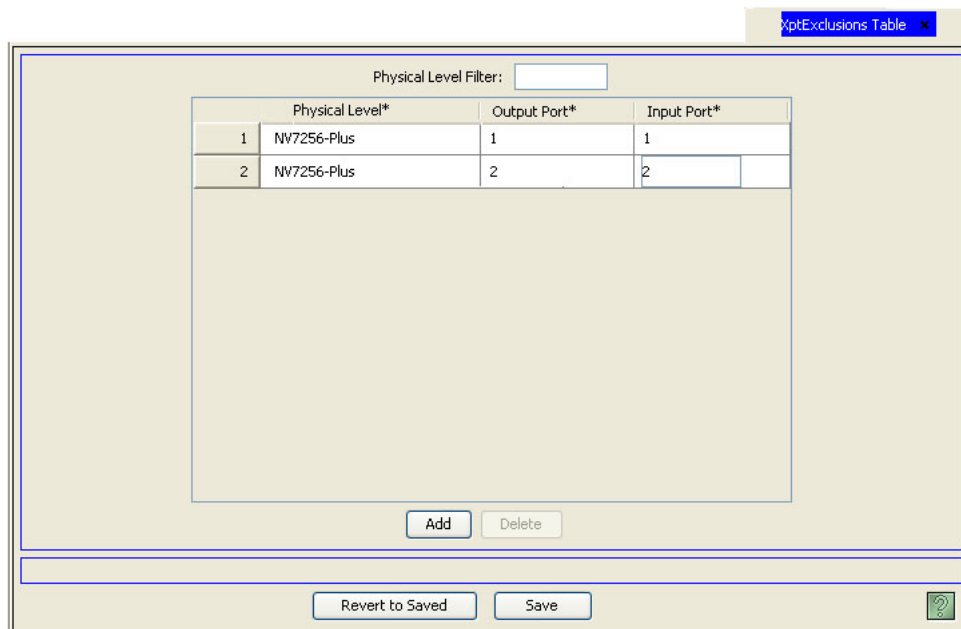

Figure 7-34. XPT Exclusion Table
- 2 From the Navigation area, select the 'Views' pane and then 'XPTE exclusions'. The 'XPTE exclusions' table displays, as shown in Figure 7-34.